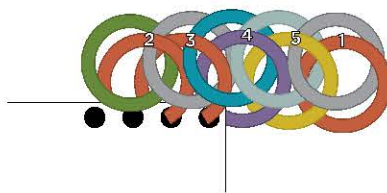

FIG. 9
16. Thread the remaining open (white) jump ring through the base-row (orange) jump ring just added, moving right to left from behind it. Then thread the open jump ring through the adjacent base-row (yellow) jump ring, moving left to right from the front. Close the open jump ring (FIG. 9).